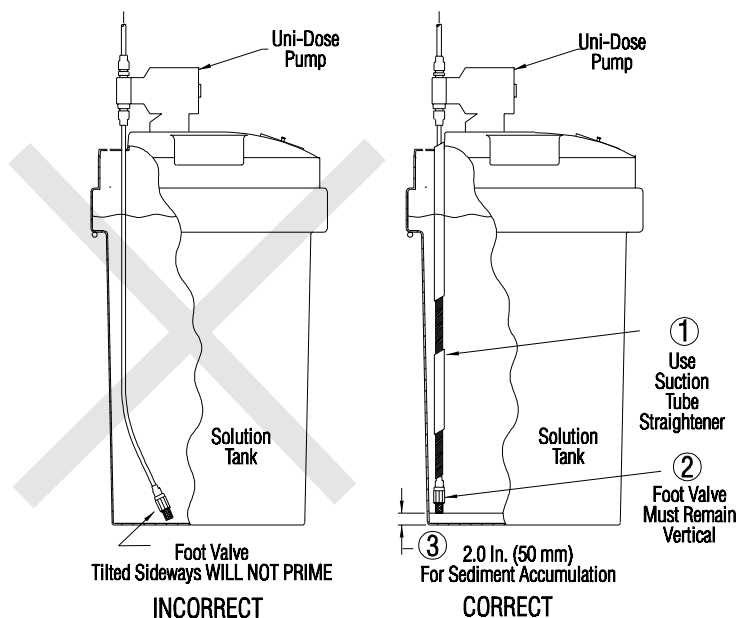

Figure 9: Foot Valve Position
2. Assemble the suction tubing straightener by pushing together alternating yellow and black tubes. Adjust the length of the tubing straightener by pushing tubes further together so when placed over the suction tubing and sitting on the foot valve, approximately three (3) inches (75 mm) of tubing exits the tubing straightener on the side to be connected to the pump.
3. Place foot valve, tubing and suction tubing straightener into the solution tank. Check that the foot valve is vertical and approximately two (2) inches (50 mm) from the bottom of the tank or drum (see figure 9). Connect the other end of the tubing to the suction side of the pump head (bottom side).